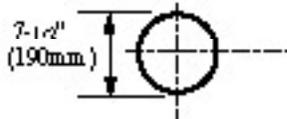

Fig. 22
Locate vent opening on the wall. It may be necessary to first position the fireplace and measure to obtain hole location. Depending on whether the wall is combustible or non-combustible, cut opening to size. (Fig. 22)
(For combustible walls first frame in opening. Fig. 22).
COMBUSTIBLE WALLS : Cut a 9-3/8"H x 9-3/8"W (240 mm x 240 mm) hole through the exterior wall and frame as shown (Fig. 22).
- 1 Establish vent hole through the wall (Fig. 22).